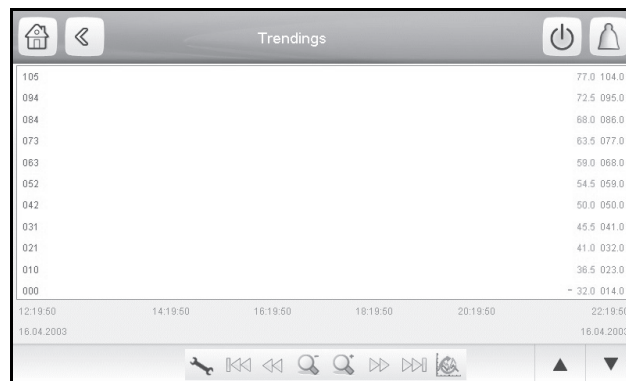

Fig. 11 — Trendings Screen, Page 2
Select the parameters to be displayed by selecting the box to the left of the parameter name, then press save. Press the up/down page buttons to see the graph showing the performance of the unit during a selected period of time. See Fig. 11.
- Press to adjust time and date settings for the display. See Fig. 11. Select the time/date boxes and use graphic keyboard to modify time/date; then select the to save your entries.